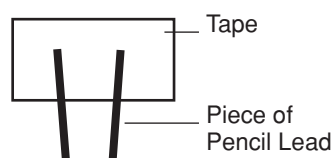

Figure 1.
- b. Break a mechanical pencil lead into two equal halves. *Note:* Mechanical pencil leads are fragile. Place each piece on the tape as shown in Figure 1.